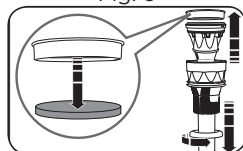

Fig. 6
2. Lift out the filter assembly and disassemble (Fig. 6).